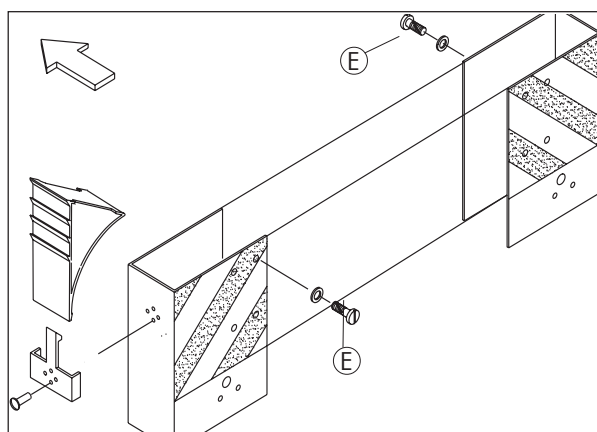

Fig. 2-8
Fasten each plate to the chassis frame with 8 screws (E), leaving as great a distance as possible between the plates (fig. 2-8). Use the content of bag F.